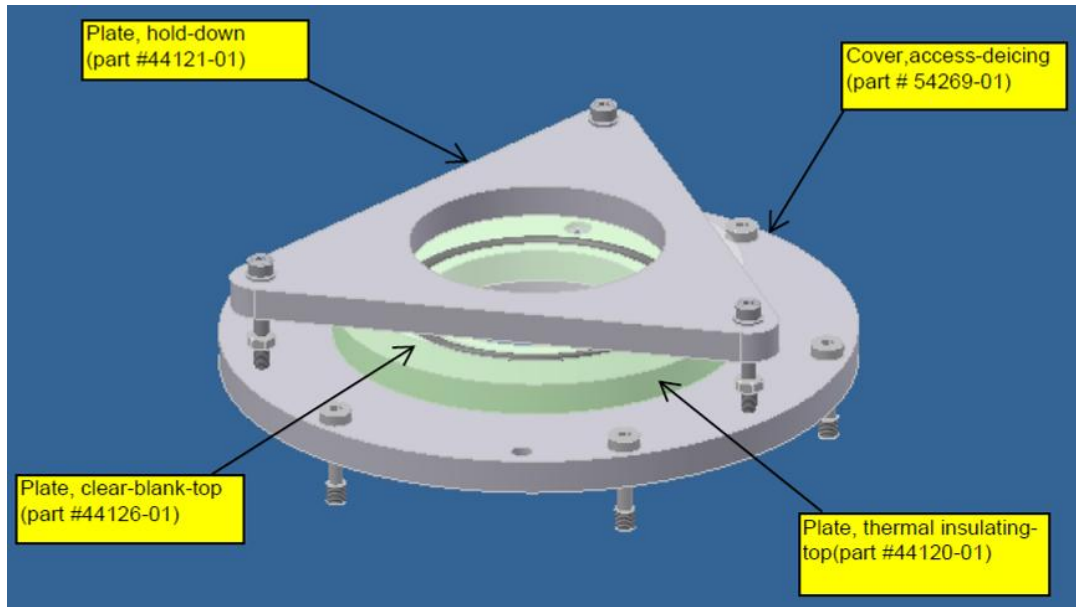

Figure 7-1C
- Rex PMS No beginning with UB or higher, use the kit components shown in Figure 7.1C